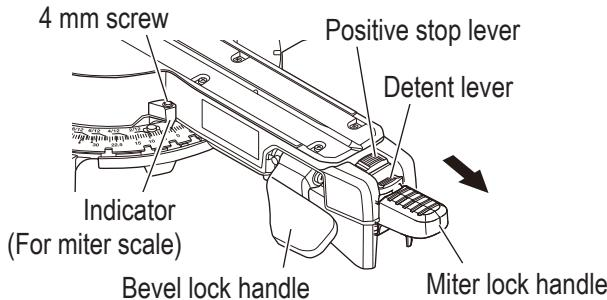

Fig. 16
The slide compound miter saw scale can be easily read, showing miter angles from  $0^\circ$  to  $45^\circ$  to the left and right. The miter saw table has nine of the most common angle settings with positive stops at  $0^\circ$ ,  $15^\circ$ ,  $22.5^\circ$ ,  $31.6^\circ$ , and  $45^\circ$ . These positive stops position the blade at the desired angle quickly and accurately. Follow the process below for quickest and most accurate adjustments. (Fig. 16)
- (1) Push up the miter lock handle to release the turntable.
- (2) Push down the positive stop lever until the detent lever catches on it to release the "positive stop".
- (3) Rotate the turntable and set the indicator to line up with the desired angle of the miter scale. At this time, when using the positive stop function, pull the detent lever in the direction of the arrow near the desired angle as shown in Fig. 16, release the detent lever, and move the turntable to secure it in place at the desired angle via the positive stop function. ( $0^\circ$ ,  $15^\circ$ ,  $22.5^\circ$ ,  $31.6^\circ$ , and  $45^\circ$ )
- (4) Push down the miter lock handle to secure the turntable in place.
### Detent lever (Fig. 16)